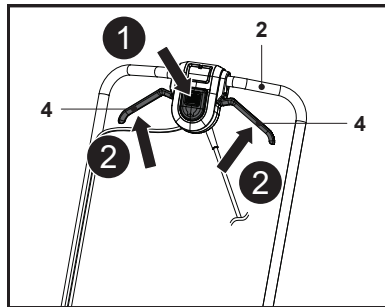

Fig. 15
1. Stand behind the grip handle (2).
2. While holding the safety switch button (1) pressed, pull the start lever (4) towards the grip handle (2) and hold it in position (Fig. 15, steps 1, 2).
3. After the lawn mower starts, release the safety switch button (1).